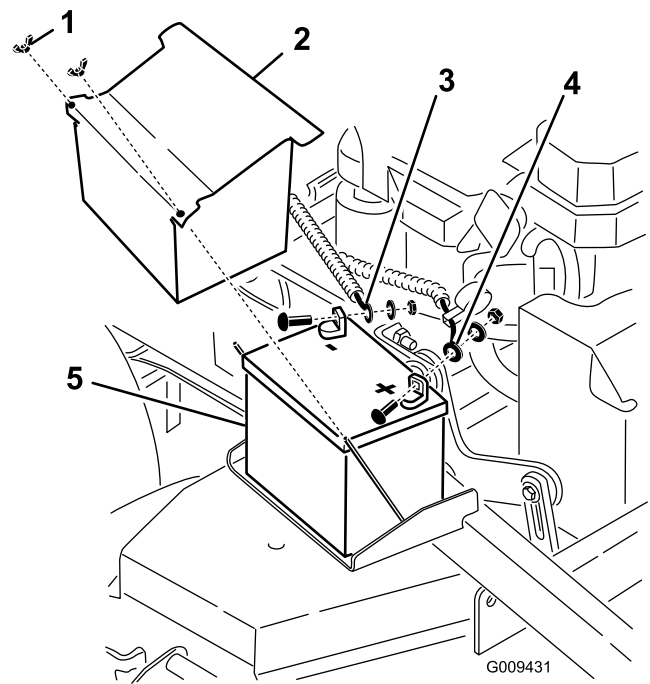

Figure 51
3. Lift the black rubber cover on the negative cable. Disconnect the negative battery cable from the negative (-) battery terminal (Figure 51).
4. Slide the red terminal boot off the positive (red) battery terminal. Then remove the positive (red) battery cable (Figure 51).
5. Remove the battery hold down plate (Figure 51) and remove the battery.
1. Place the battery onto the machine (Figure 51).
3. First, install the positive (red) battery cable to positive (+) battery terminal with a nut, washer and bolt (Figure 51). Slide the rubber cover over the post.
4. Then install the negative battery cable and ground wire to the negative (-) battery terminal with a nut, washer and bolt (Figure 51). Slide the rubber cover over the post.